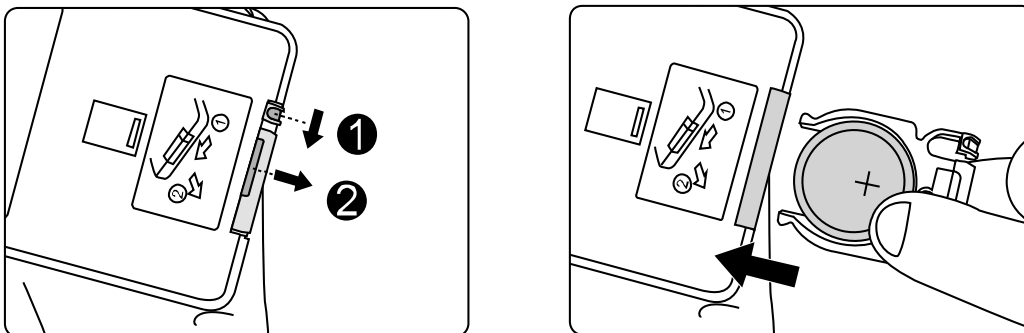

Figure 10. Remote Control Battery Compartment.
1. Push and hold the locking slide while pulling out the battery holder as shown in Figure 10.
4. Push battery holder into remote control as shown in Figure 10. Ensure locking slide locks in place.